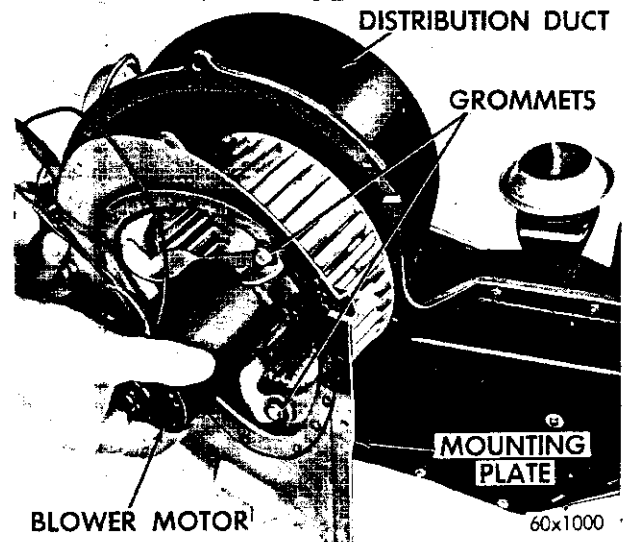

Fig. 54—Removing the Blower
- (1) Disconnect the battery ground cable.
- (2) Disconnect the heater ground wire at the windshield wiper motor mounting bracket and disconnect the blower and clutch circuit wires from the harness connectors.
- (3) Disconnect the vacuum hoses and the actuator rods from each vacuum unit. Remove the hoses from their attaching clips.
- (4) Disconnect the distribution duct damper control cable.
- (5) Remove the temperature control valve capillary from the engine-side housing.
- (6) Remove the three screws attaching the distribution duct to the dash panel (one is located to the left of the recirculating door and to the right of brake pedal bracket; one below the floor outlet at passenger side, and one screw is located at the windshield wiper motor right link pivot).
(7) Remove the housing and the blower by pulling down and out of driver's compartment. Remove the blower, mounting plate and motor. (See Fig. 54).